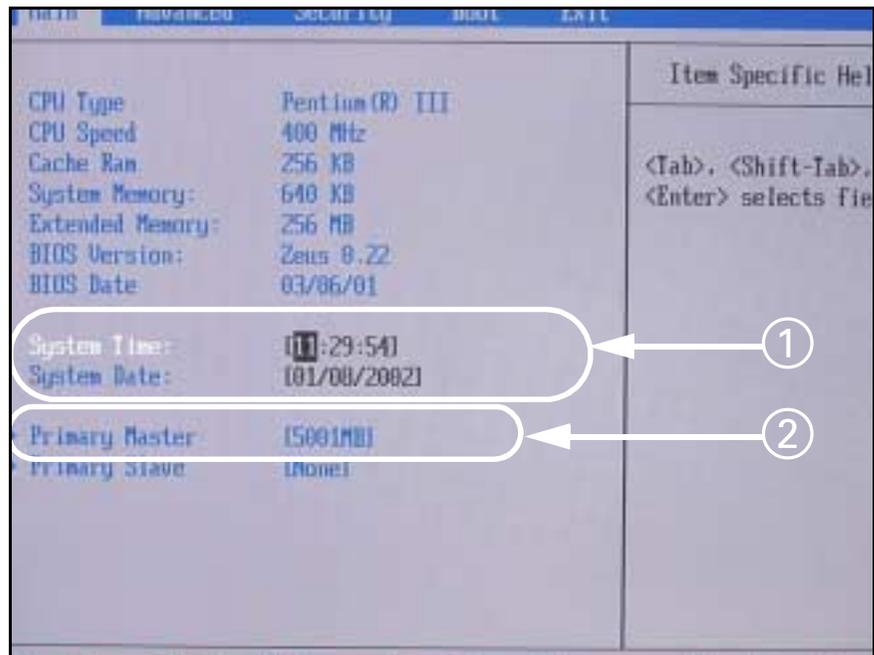

Figure 2-2 Main screen
8. Enter correct date/time (① in Figure 2-2) for clinical site, using arrow/number keys.
9. Verify correct "Primary Master" settings as shown in (② in Figure 2-2).